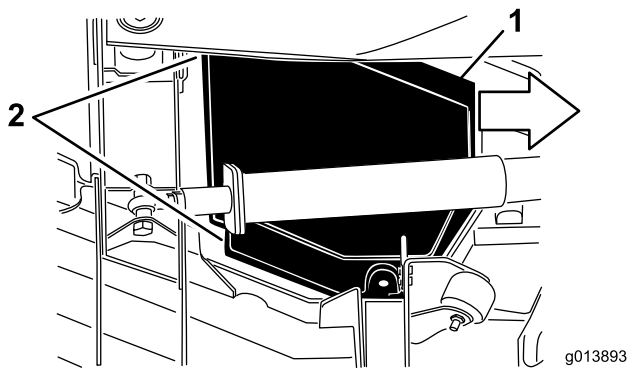

Figure 48
5. While lifting the cover, slide it toward the traction unit, approximately 1 inch, to disengage the outer cover edge from the deck (Figure 48).